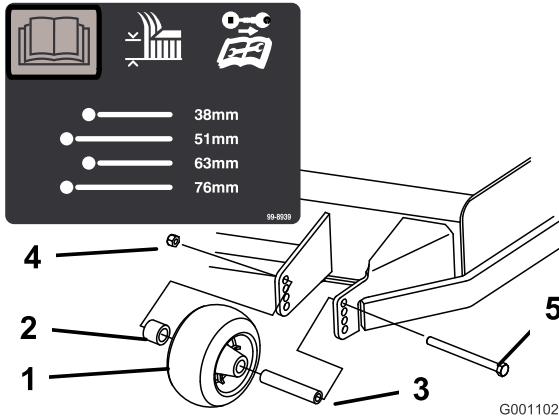
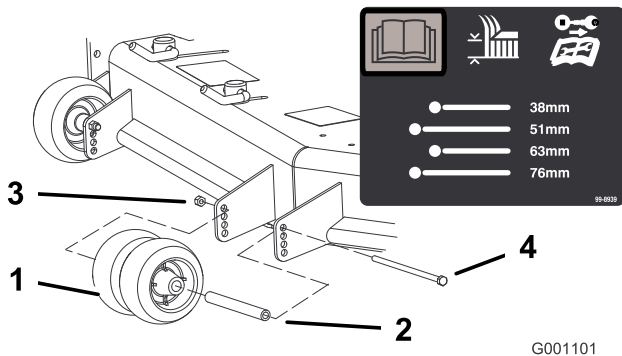
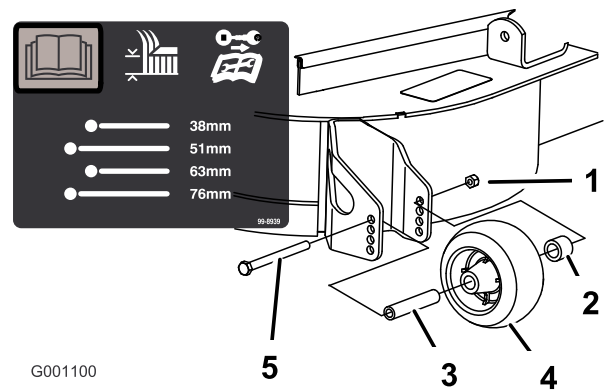

Figure 20
Figure 21
Figure 22
- After adjusting the height-of-cut, adjust the rollers by removing the flange nut, bushing, spacer, and bolt (Figure 20 , Figure 21 and Figure 22).
Note: The two middle rollers will not have a spacer (Figure 21).
- Torque to 40-45 ft-lb (54-61 N-m) (Figure 20 , Figure 21 and Figure 22).